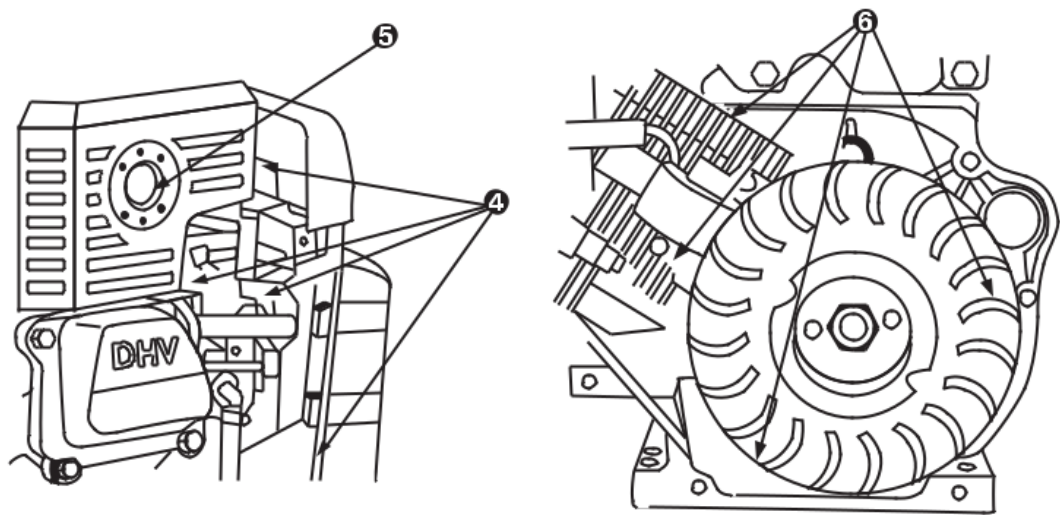

Figure 15
- * Every 100 hours or every season, remove the starter guard and clean the area shown in Figure 15.